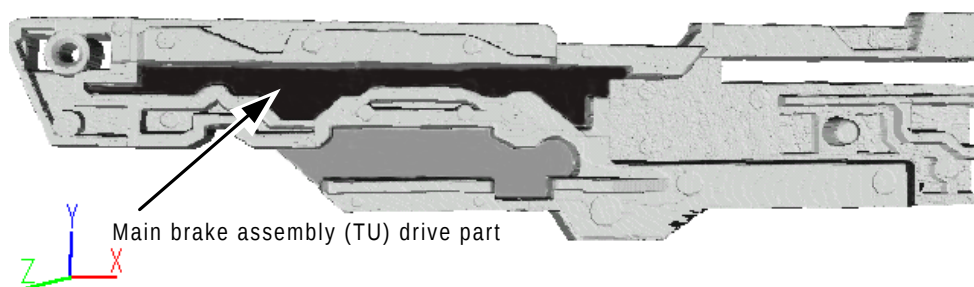

Fig. 5-3-20 Control plate (Main brake assembly drive part)
The main brake assembly (TU) is connected with the control plate by its trace pin that is set in the control groove on the control plate (see Fig. 5-3-20 that shows the control plate as viewed from the upper side of the mechanism chassis).